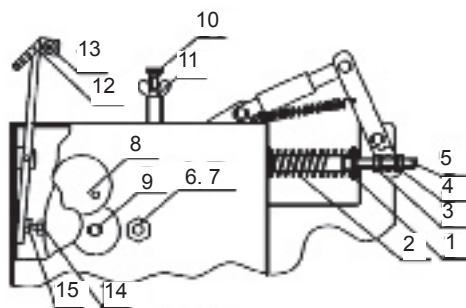

Fig. 8
To facilitate winding of the wire rope, perform prebrake regulation with the screw (10) and respective wingnut (11) (Fig. 8). Exact prebrake regulation will also prevent the rope from unwinding excessively fast or accidentally slipping off the drum. Extreme fast unwinding and abrupt brake disengagement may cause severe damages to the wire rope. Exact prebrake regulation occurs when the rope can be effortless spooled off the drum. The prebrake arrangement must be disengaged for uphill winching operations in order to ensure easier pulling of the rope. A pre-braking function is also performed by the inlet fairlead Pos. 12, (Fig. 8) where the rope is inserted. Exact prebrake regulation will also prevent the rope from unwinding excessively fast or accidentally slipping off the drum. Extreme fast unwinding and abrupt brake disengagement may cause severe damages to the wire rope.
- tighten the nut (Pos. 3) Fig.8 used to lock the spring
- adjust nuts (3) and (4) to obtain a 7 mm gap between nut (1) and (3) on the threaded spindle
- tighten nut (4) to complete the procedure
Your logging winch is equipped with 4 nipples for the lubrication of the upper pulley and lower snatchblocks as well as the rope fairlead. Additional lubrication is then required on nipple (13) of the prebraking arrangement (12) (Fig.8).